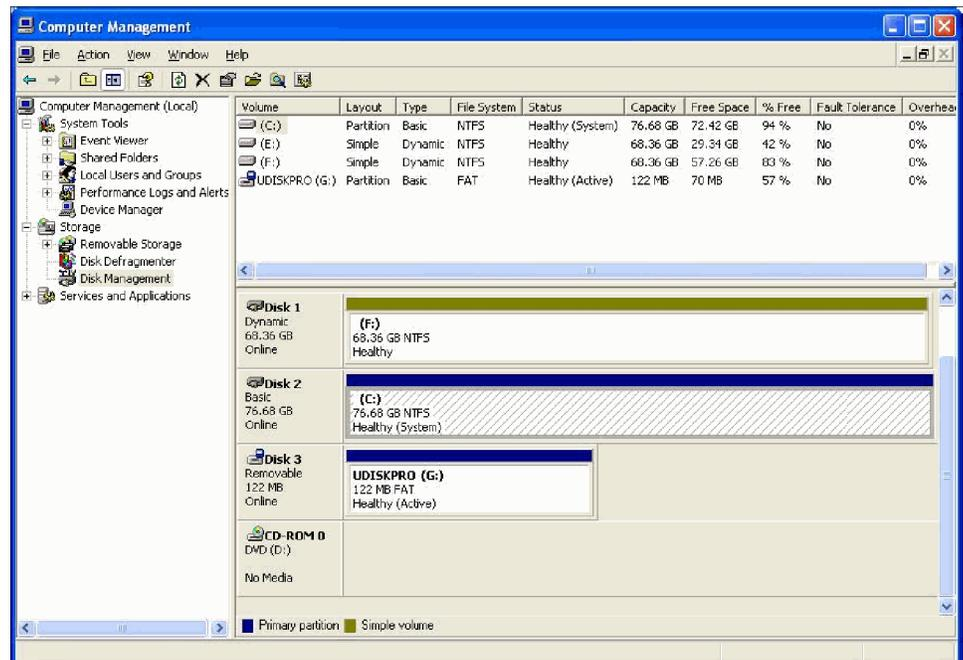

Figure 18: SCSI drives manually recognized
5. This takes a little time. Wait until the drives appear in the upper window, as shown in Figure 18.